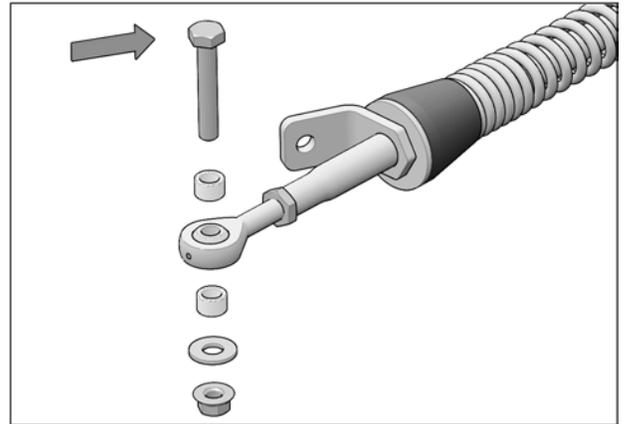

Fig. 16
3. Remove bolts, nuts, washers and bushings from front stabilizing rod ends as shown in Fig. 16